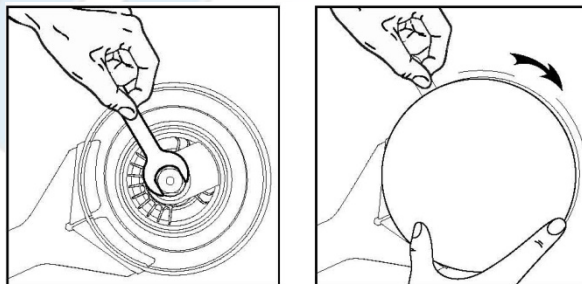

figure 5
2. To remove the Disc Pad, insert the flat wrench between the Disc Pad and shroud. Secure the Spindle with the flat wrench and unscrew the Disc pad. - see figure 5.